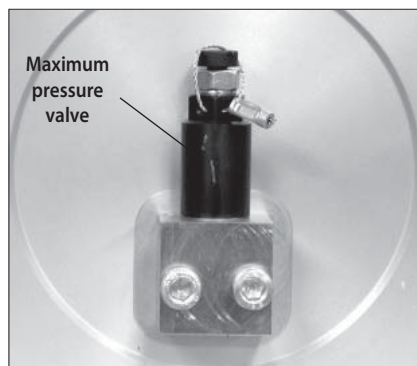

FIG. 16
6.1.5) Maximum pressure valve (Ref. to Fig. 16)